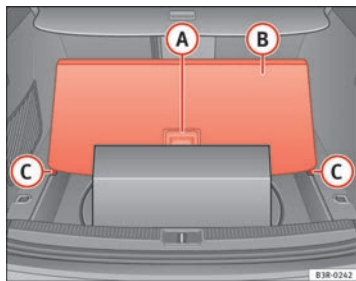

Fig. 124 Floor panel raised
- Take hold of handle (A) ⇒ fig. 124, lift the floor panel (B) and line up the bottom corners of the floor panel with the recesses (C).
- Take hold of the handle (A) ⇒ fig. 124 and fold out the floor panel as far as the rear backrest.
Small items can also be stored **under** floor panel (B) ⇒ fig. 124.